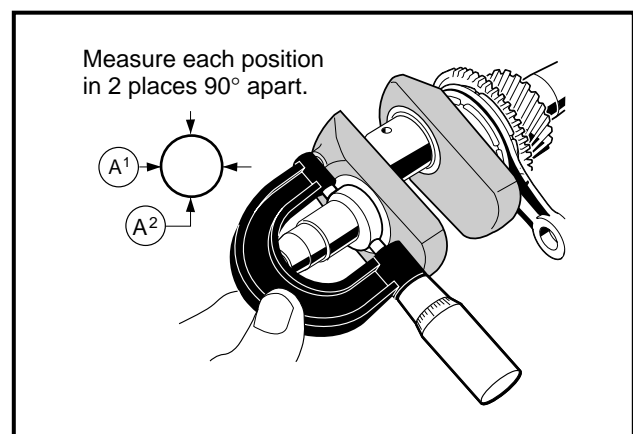

Figure 13-85 Measure Link Rod Journals
6. Using a micrometer, measure the crankshaft link rod journals at several points (**Figure 13-85, Page 13-39**).